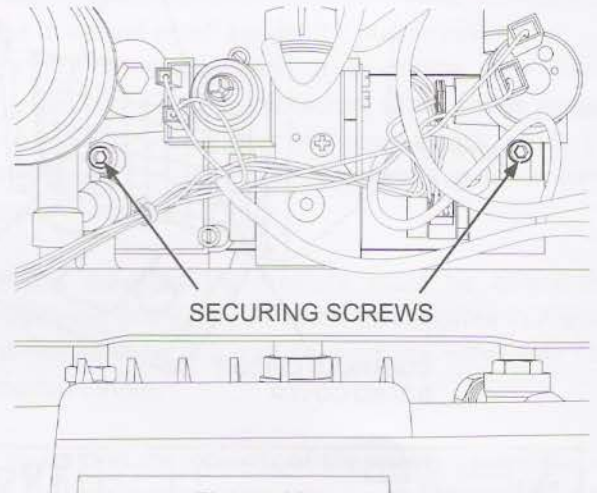

Figure 44
- Remove the two screws which connect the heat exchanger to hydraulic circuit. (Figure 44)